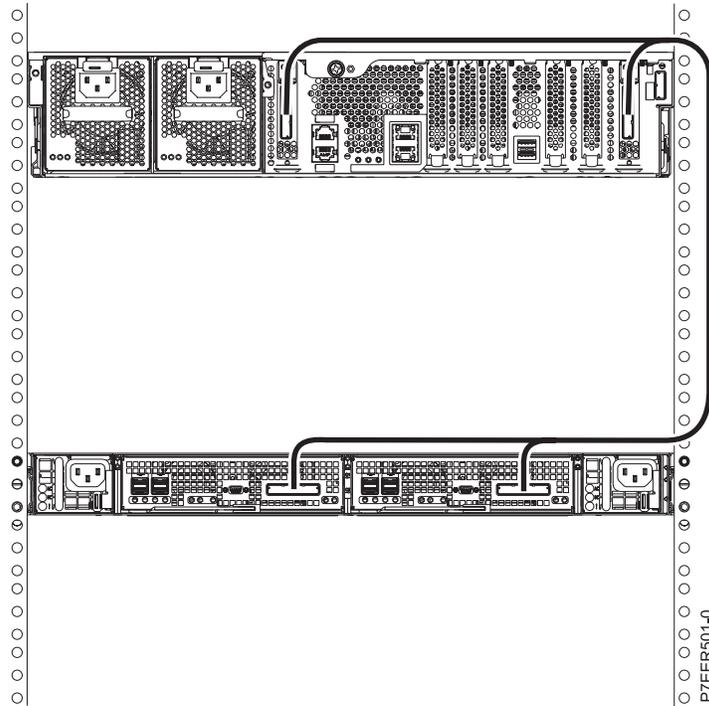

Figure 16. One 58/88 PCIe storage enclosure connected to an 31E/1C or 31E/2C system by using two FC EJ0H PCIe2 GX++ adapters and two PCIe cables
Figure 16 on page 16 shows an example of connecting a 58/88 PCIe storage enclosure to an 31E/1C or 31E/2C system by using two feature code (FC) EJ0H PCIe2 GX++ adapters and two PCIe cables.